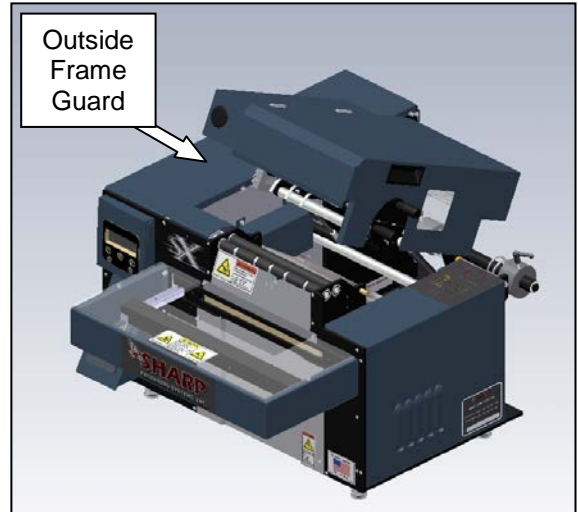

Figure 3-342. Guard Identification
1. Remove the outside frame guard (Figure 3-342).